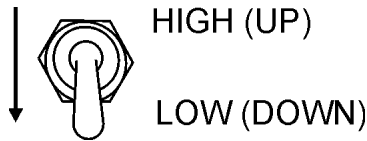

Figure 39. Engine Speed Switch (High)
7. Place the engine speed switch in the “**LOW**” position (Figure 39).